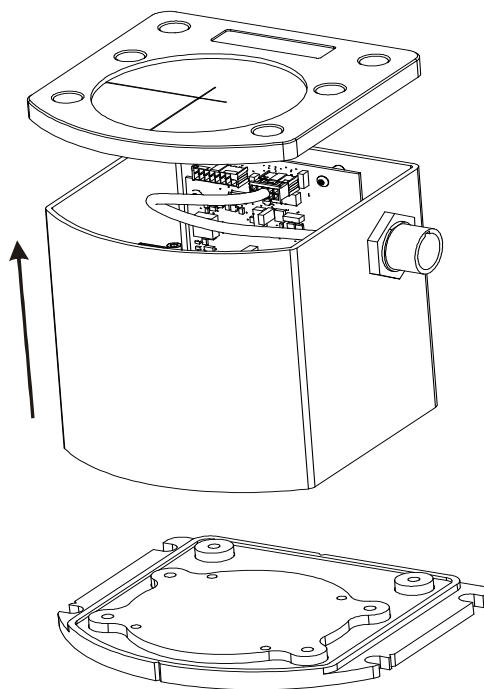

Figure 77: Lift Top Cover and Tube Body
4. Lift the tube body away from its base plate and set it aside, as shown in *Figure 77* on *page 379*.